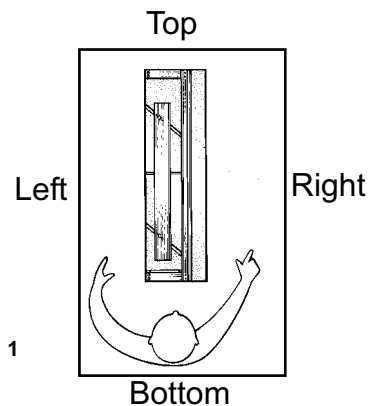

Fig 1
The Procedure detailed in the following instructions refer to the right and left side, and the top and bottom of the machine as shown. **Fig . 1**
4. Use the Nylon Guides on the Straight Cutter to hook the Cutting Head onto the Guide Rail past the end of the board to be cut. Grasp the handle as shown in the picture and pull the Straight Cutting head towards you. Keep constant downward pressure on the Straight Cutting Head and the Guide Rail as you make your cut. **Fig. 1**
3. Using a pencil, mark a line along the full length of the matboard using the Guide Rail as a guide. **Fig 1.** Repeat this for remaining three sides.
1. Lock the Mat Guide at the 2" mark on the scale. **Fig. 1**